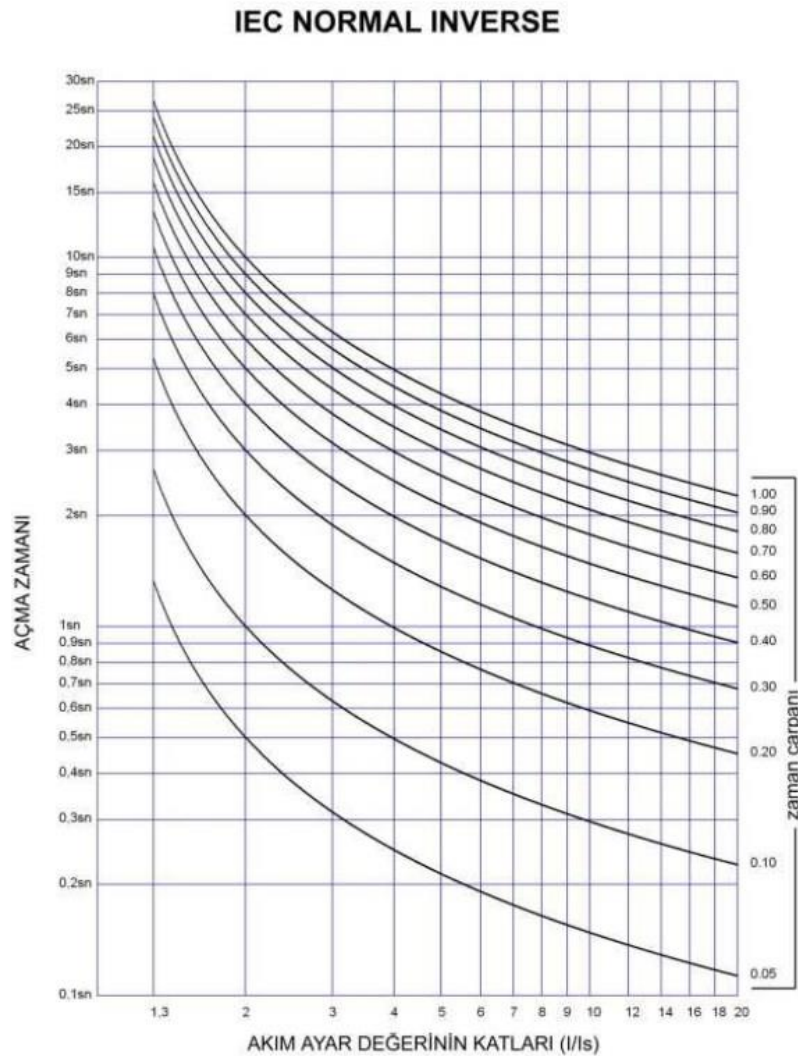
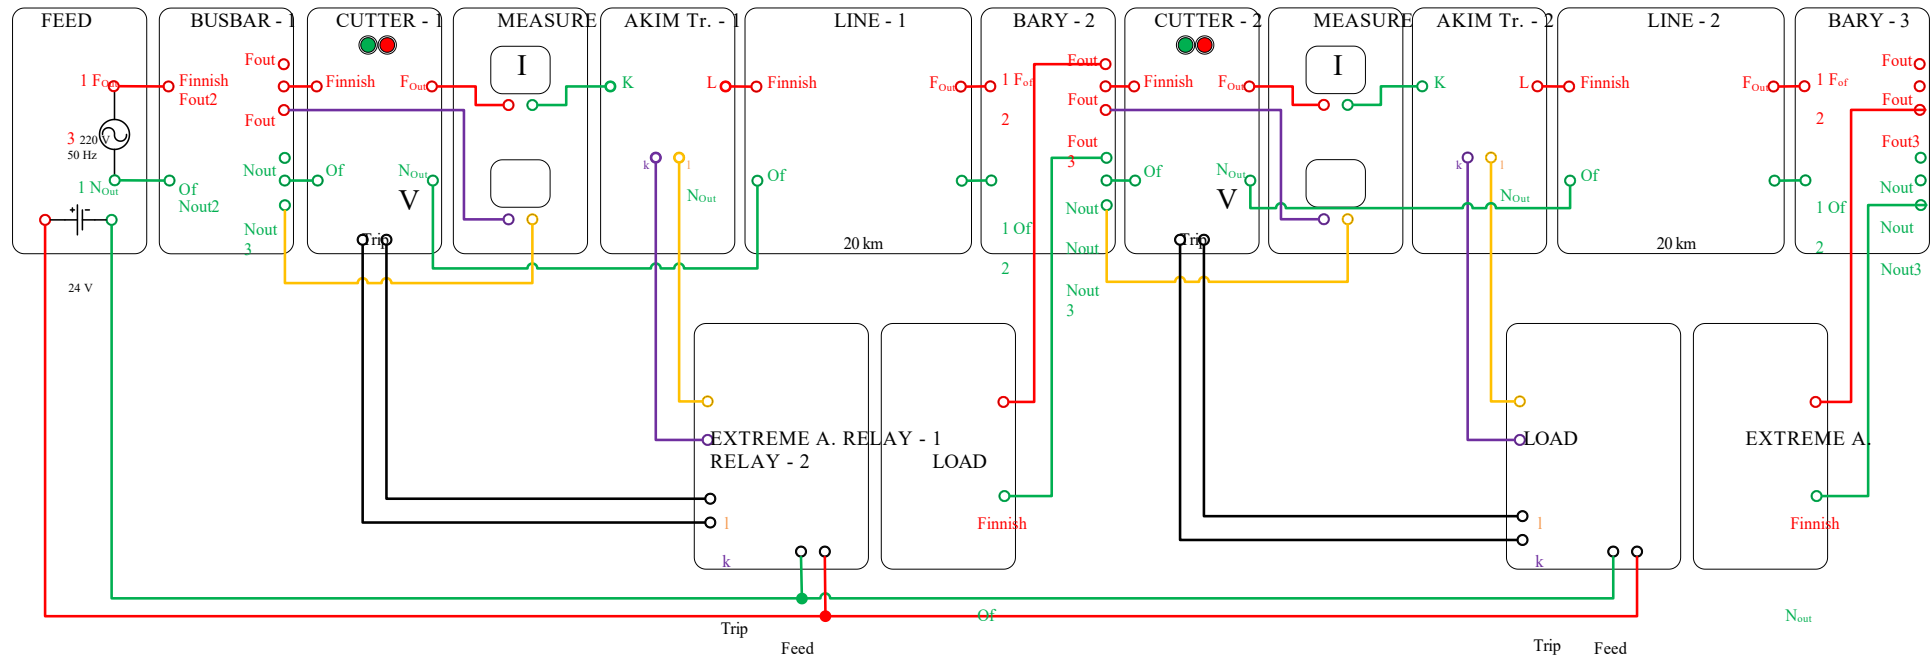

Figure 2. Reverse time overcurrent relay curve selection
Figure 3. Experiment wiring diagram
Figure 2 shows the curves that can be selected according to the time multiplier K in the Normal Inverse (IEC) curve.
1. Make the connections given in Figure 3.
2. Calculate the current setting values (TS) of relays 1 and relays 2 with a maximum load of 100 W on the second bus and a maximum of 200 W on the third busbar. (Both loads connected to the busbars are omic. The rotation ratios of current transformers are 5:5. Relay current setting values will be taken as 20% more than the maximum load current found.)
3. According to the current setting values you find, the time delay settings of the relays (TDS) SNormal Inver given in figure 2 if (IEC) curve. (Here, we set the current-time curve of the overcurrent relay to GEPA PC SDo not forget to set it to "normal inverse (IEC)" from the UITE program interface. Busbarssimum fault current values 1st bus 15 A, 2nd bus 10 A and 3rd bus 5 A, $T_{Esici} = 0.1$ sec and $T_{father} = 0.3$ s will be taken as.)